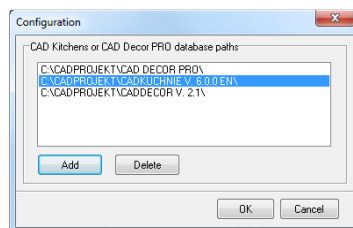

Fig. 41 – ‘Configuration’ dialog box
3) **‘Database catalogues’** - opens the configuration dialog box (Fig. 41), in which you can select a location in which CAD Kitchens or CAD Decor PRO programs have been installed, and this way define the paths to kitchen cabinet database. Use the **‘Add’** button to browse for location and then click **‘Ok’** to confirm the new path.